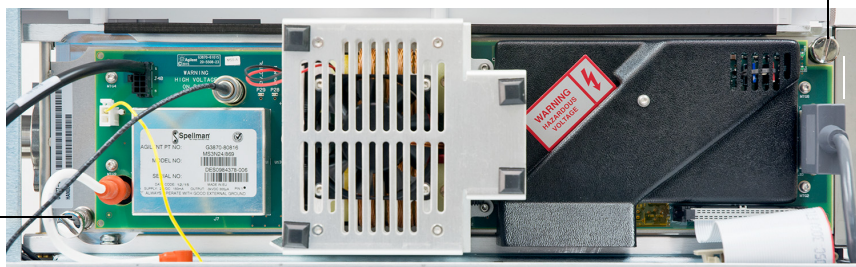

Figure 7. Side plate thumbscrews
- 5 Finger-tighten the side plate thumbscrews. (See **Figure 7** on page 97.)